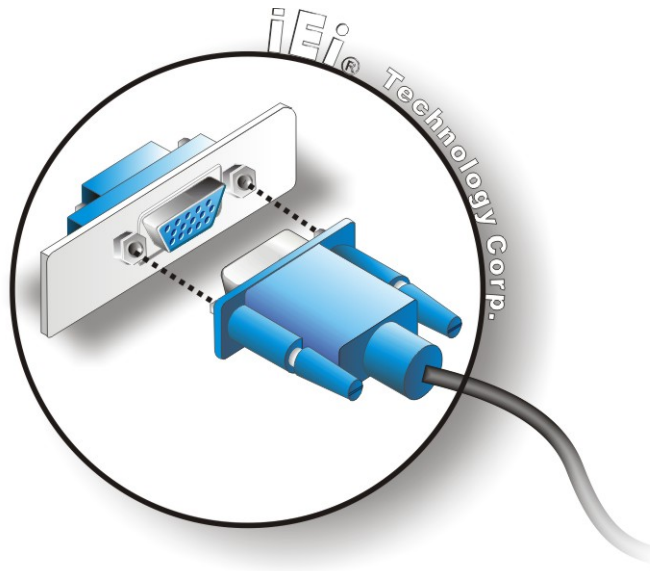

Figure 5-20: VGA Connector
- Step 3:** **Insert the VGA connector** Once the connectors are properly aligned with the insert the male connector from the VGA screen into the female connector on the KINO-690S1. See **Figure 5-20**.